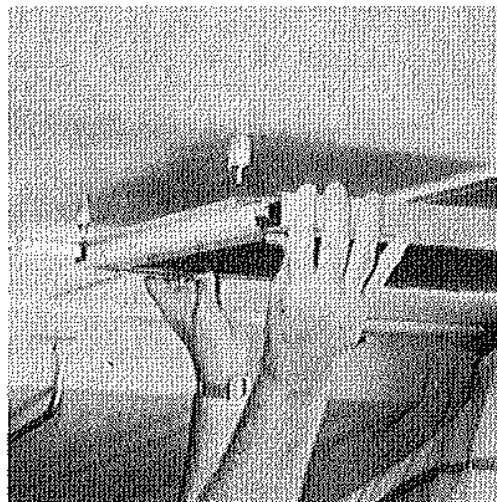

Fig. 6
10. Unlatch twist locks holding door to roof. Swing down the double hinged, self-storing screen door. Drop channel of lower edge of screen door over entrance door, guiding locating pins into door jamb extrusion. Fig. 6
2. Swing screen door up to roof and latch the twist locks. Fig. 6